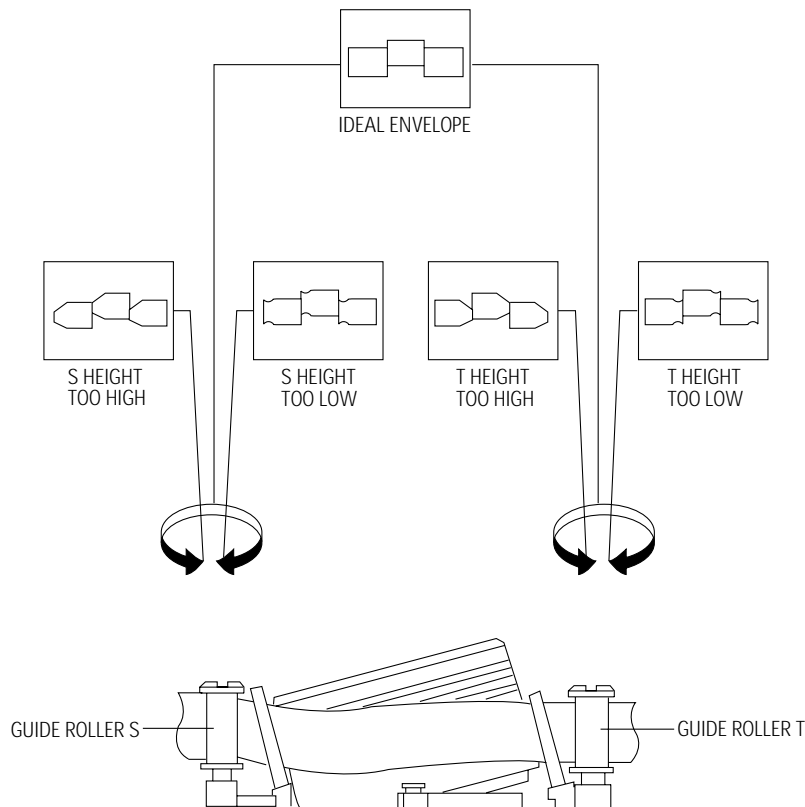

Fig. 5-11 Guide Roller S, T Height Adjustment
- 8) Turn the guide roller heads with a flat head (🔧) driver to obtain a flat video RF envelope as shown in Fig. 5-11.